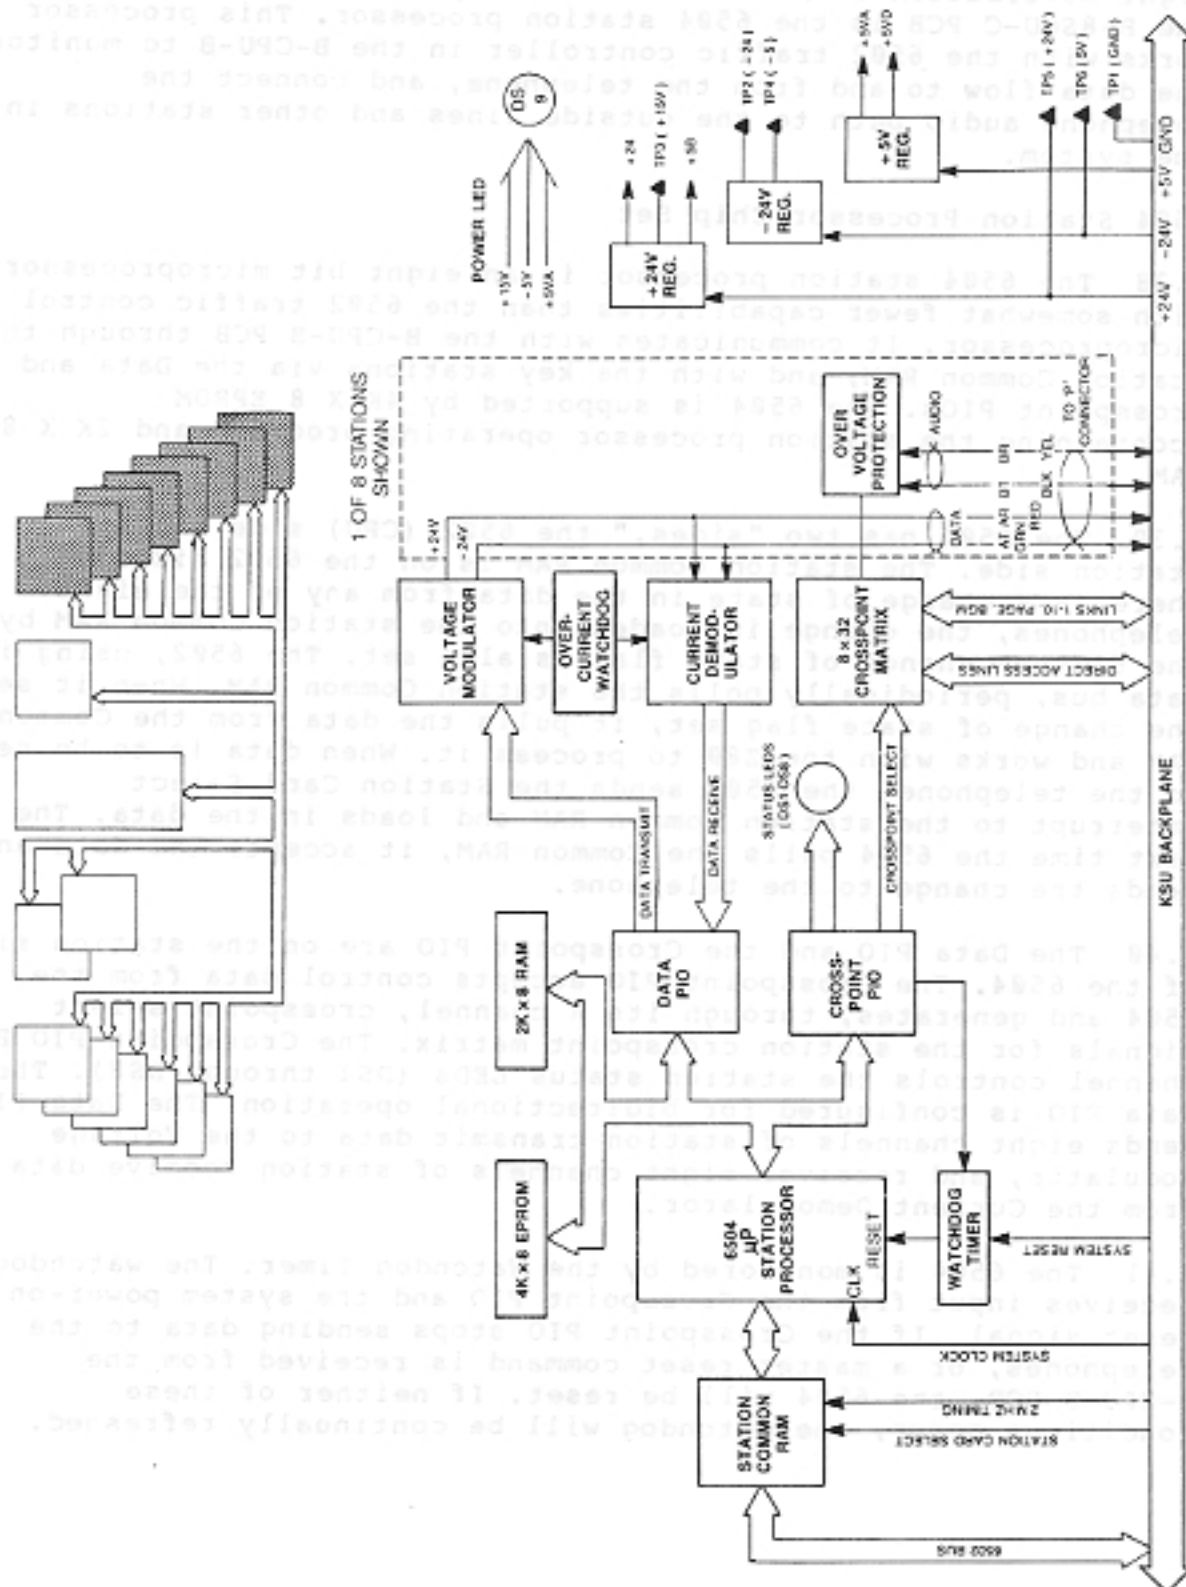

Figure 8-12 B-8SCU-C STATION CONTROL UNIT PCB BLOCK DIAGRAM, TCX-128
3.37 The B-8SCU-C PCB (Figure 8-12) is the control unit for eight multibutton and/or four button key stations. The heart of the B-8SCU-C PCB is the 6504 station processor. This processor works with the 6502 traffic controller in the B-CPU-B to monitor the data flow to and from the telephone, and connect the telephone audio path to the outside lines and other stations in the system.